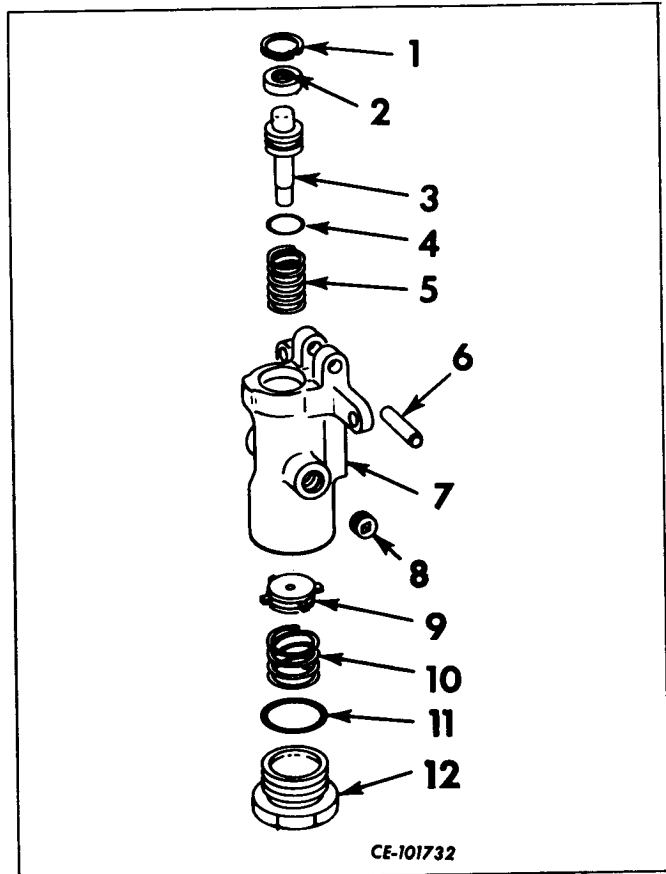

Figure 13-48C
Drive lever arm pin (6, Fig. 13-48C) from valve assembly disconnecting lever arm from valve.
Remove cap nut (12, Fig. 13-48C), valve spring (10) and valve (9) from lower end of valve body (7). Remove "O" ring (11) from cap nut and discard.
Remove retaining ring (1, Fig. 13-48C), plunger seal (2), plunger (3) and plunger return spring (5) from upper end of valve body (7). Remove "O" ring (4) from plunger. Discard "O" ring and plunger seal (2) felt washer.
Install new "O" ring (7, Fig. 13-48C) on plunger (3). Lubricate "O" ring, plunger and plunger bore in valve body with a light coat of petroleum jelly. Install spring (5), plunger (3) and plunger seal assembly (2) in plunger bore in valve body (7). Secure with retaining ring (1) being sure ring bottoms in its groove about its entire circumference.
Install valve (9, Fig. 13-48C) and spring in lower bore of valve body (7). Install new "O" ring (11) on cap nut (12). Lubricate "O" ring with a light coat of petroleum jelly and install nut assembly in valve body. Tighten securely.
Position lever arm in valve and secure by installing lever arm pin (6, Fig. 13-48C).